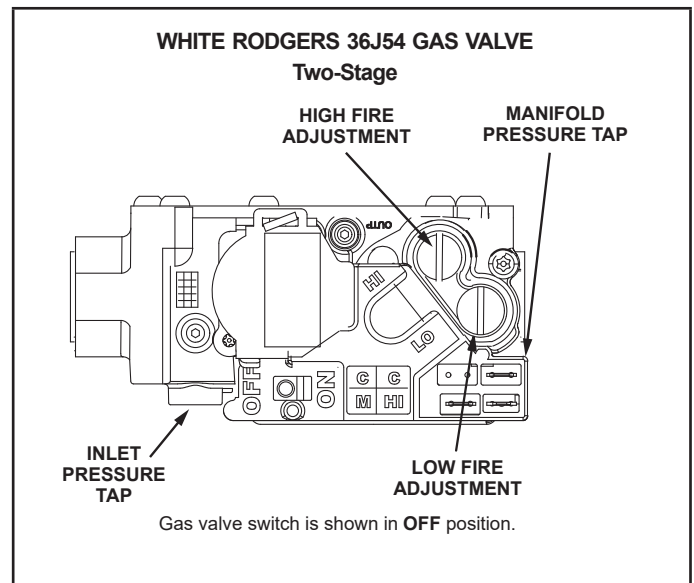
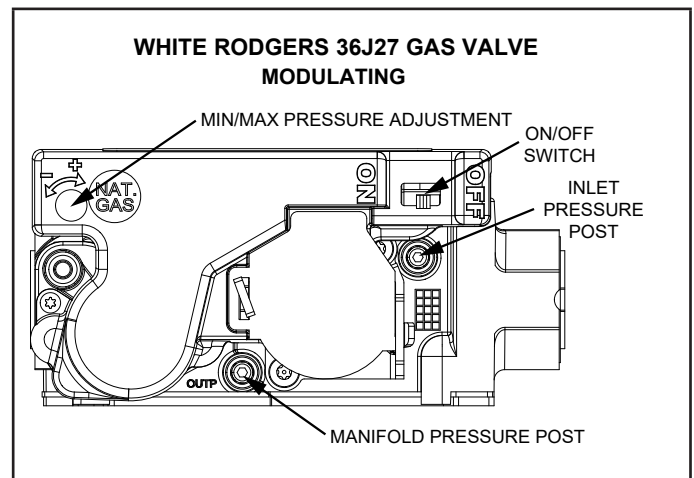

FIGURE 30
FIGURE 31
- 5 - Move gas valve switch to **OFF**. See FIGURE 30 and FIGURE 31.
- 6 - Wait five (5) minutes to clear out any gas. If you then smell gas, **STOP!** Immediately call your gas supplier from a neighbor's phone. Follow the gas supplier's instructions. If you do not smell gas, go to the next step.
- 7 - Move gas valve switch to **ON**. See FIGURE 30 and FIGURE 31.
For White Rodgers 36J54 valve (FIGURE 30), supply pressure is accessed by removing 1/8" hex screw. Remove the 1/8" hex screw and install a 1/8" fitting with hose barb. Connect tubing from the barbed fitting and route to measuring device to measure supply pressure.
For White Rodgers 36J27 valve (FIGURE 31), locate the 5/16" inlet pressure post on top of the valve. Using a 3/32" hex wrench, rotate pressure tap screw one rotation counter-clockwise. Connect a piece of 5/16" I.D. tubing over the post and route to measuring device. Open manual main supply valve.
For White Rodgers 36J54 valve (FIGURE 30), remove supply pressure barbed fitting and reinstall the 1/8" hex screw.
For White Rodgers 36J27 valve (FIGURE 31), remove tubing from the post. Then using 3/32" hex wrench, rotate the inlet pressure tap screw clockwise to seal the pressure port.
For White Rodgers 36J54 valve (FIGURE 30) manifold pressure, remove the 1/8" hex screw, install 1/8" fitting with hose barb, connect hose from barb to "+" side of measuring device.
For White Rodgers 36J27 valve (FIGURE 31) manifold pressure, locate the 5/16" manifold pressure post on top of the valve. Using a 3/32" hex wrench, rotate the outlet pressure tap screw one rotation counter-clockwise. Place 5/16" I.D. tubing over post and route to measuring device.